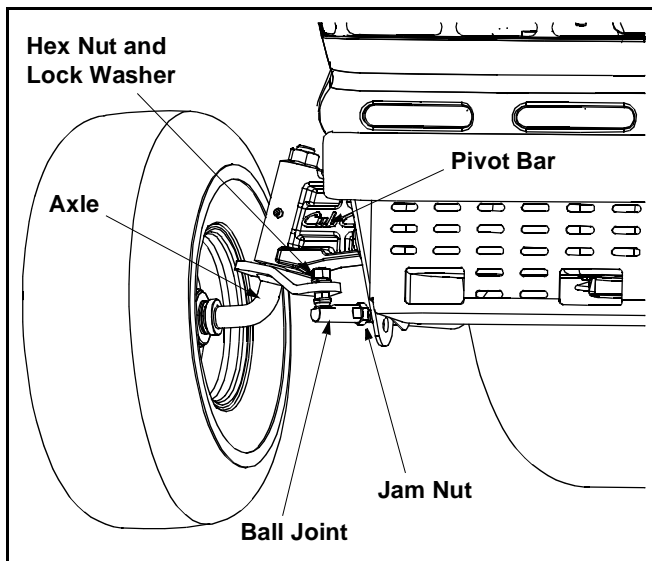

Figure 17
- Loosen the jam nut found on the drag link at the rear of the ball joint. See Figure 17.
- Remove the hex nut and lock washer on the top of ball joint. See Figure 17.